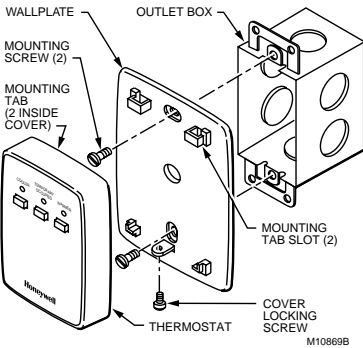

Fig. 3. Mounting the T7147.
5. Fasten the T7147 on the wall or outlet box with screws through the thermostat mounting holes. See Fig. 3.